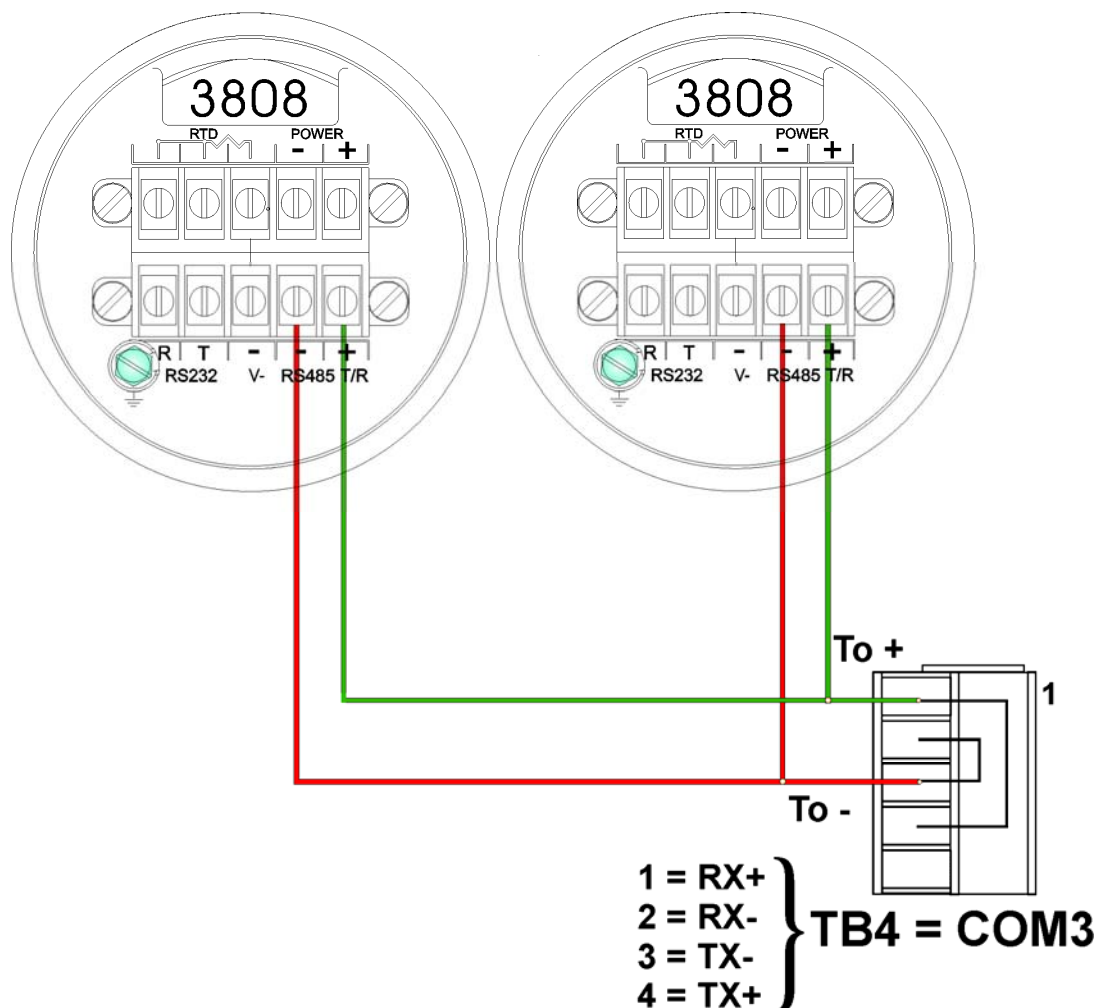

Figure C-10 - ControlWave Express to 3808s - RS-485 Network Diagram
Up to two (2) Model 3808 Transmitters can be connected to a ControlWave Express via a half duplex RS-485 Network. An illustration of this network is provided in Figure C-10.